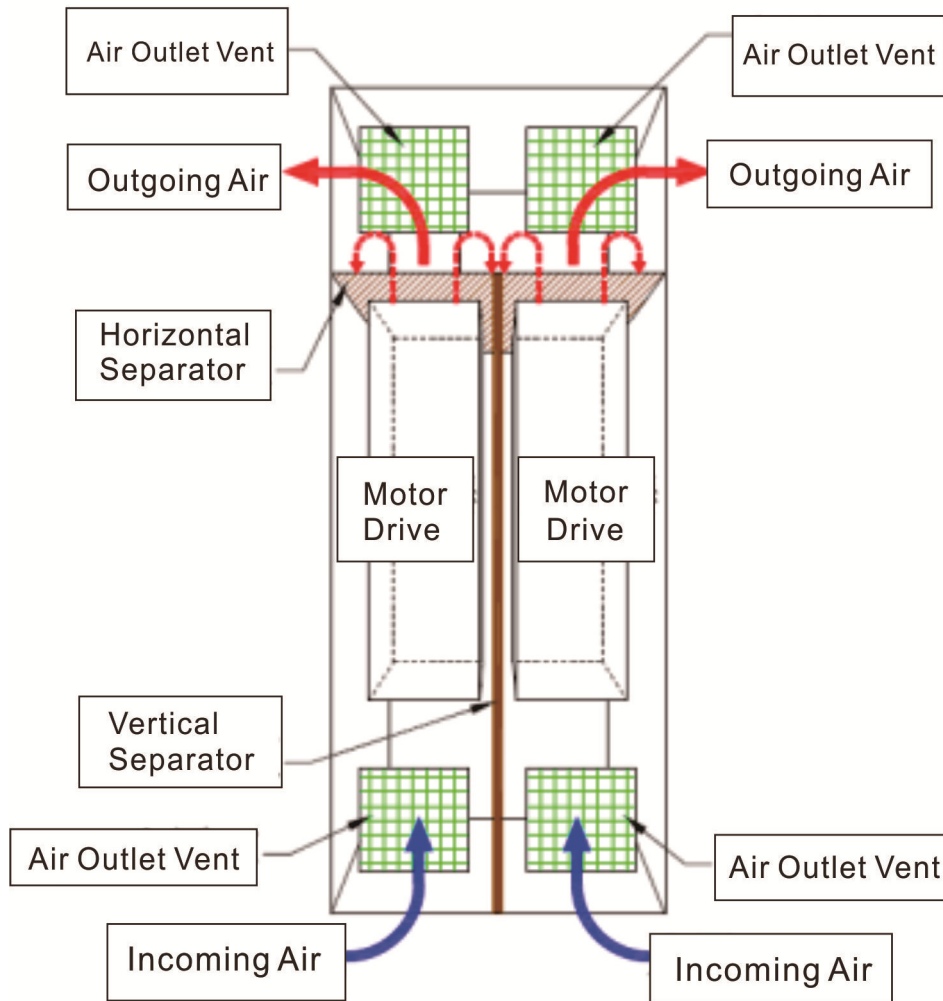

Figure 5.3.1.3 The path of air flow inside the distribution case and installation of separators
**Design of the vertical separator:** The vertical separator is needed for models with a side panel fan (Frames D0, D, E, F), and multiple drive configurations as shown in Figures 5.3.1.2-3 and 5.3.1.2-5. It is recommended to design vertical separators to avoid existing hot air being circulated into vents of the surrounding drives, and the minimum clearances shown in 5.3.1.2 should be kept. For models without side panel fans, the vertical separator is not required. It is sufficient to simply maintain the minimum clearances on the left and right sides.